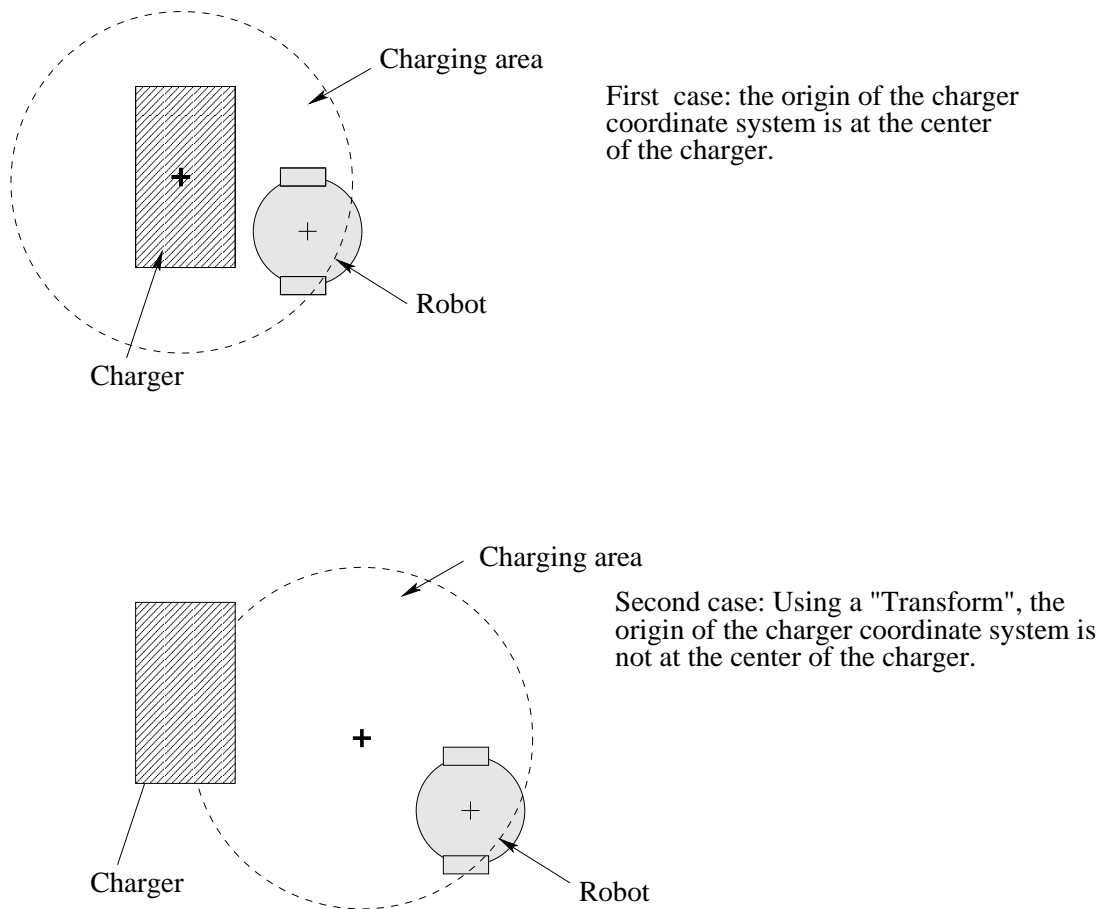

Figure 3.4: The sensitive area of a charger
- `battery`: this field should contain three values, namely the present energy of the charger (J), its maximum energy (J) and its charging speed ($W=J/s$).
- `radius`: radius of the charging area in meters. The charging area is a disk centered on the origin of the charger coordinate system. The robot can recharge itself if its origin is in the charging area (see figure 3.4).